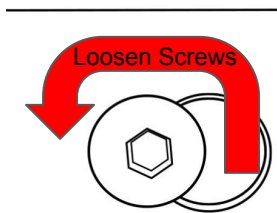

Fig. 22
2. Once the screws are loosened you can push the pass-through bracket to the right to clear the screws (see Fig 22).